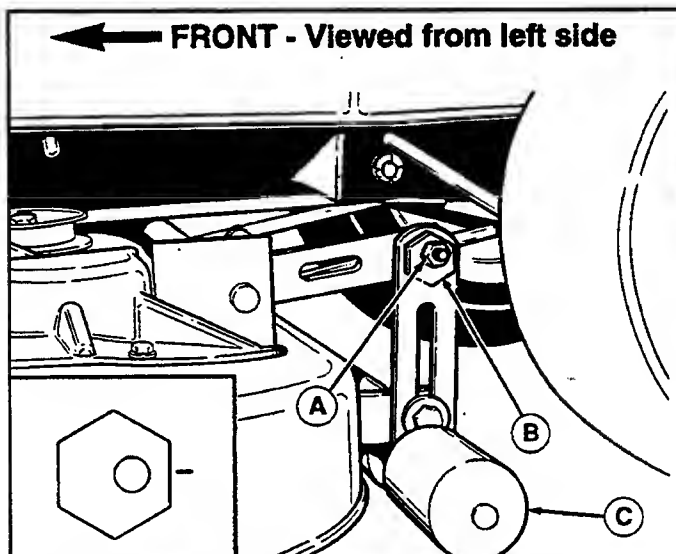

Figure 31. Leveling The Mower Side-to-Side
5. Make sure rear rollers (C, figure 31) are on the ground. If not, refer to Transport Height Adjustment.
6. See figure 31. On left side of mower, make sure eccentric nut is in correct position as shown. Loosen outside nut (A) and rotate eccentric nut (B) so that flat side with hole closest to it is towards the rear. Tighten outside nut (A) while holding eccentric nut (B).
7. On right side of mower, loosen outside nut (A). Turn eccentric nut (B) counterclockwise to raise side of mower, or clockwise to lower right hand side of mower.